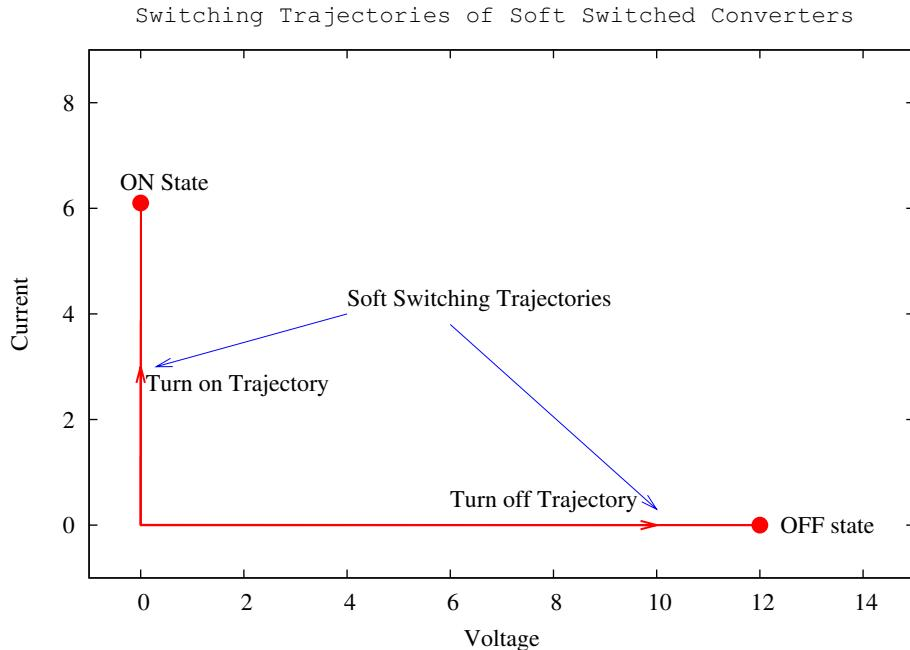

Figure 10.1: Switching Loci
3. Most regulator converters switches need to turn on or turn off the full load current at high voltage, resulting in what is known as hard switching. The figure 10.1 shows the typical switching loci for a hard switching converter without and with snubber circuit.
Figure 10.1 and 10.2 shows the full circuit diagram of the zcs buck converter operating from 15V battery (10V to 15V) providing regulated output power at 5V (1.5 A). The controller used is 555 Timer.